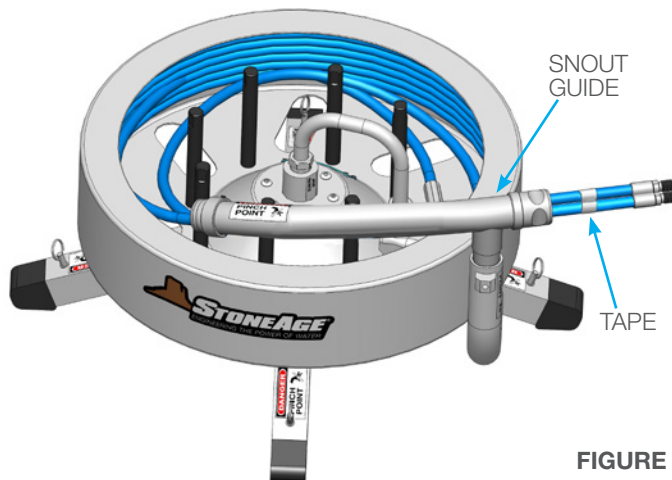

FIGURE 8
2. Wrap temporary tape just behind the male hose ends to keep them from twisting inside the Snout Guide and Snout. **(Figure 8)**